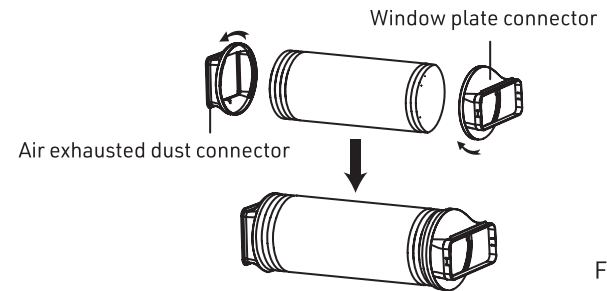

Figure. 7
9.) As shown in Figure 7, turn the air Exhaust Duct Connector to one end of the exhaust duct (clockwise), and then turn the window plate connector to the other end of the exhaust duct (clockwise). Then the flexible exhaust pipe assembly was finished.